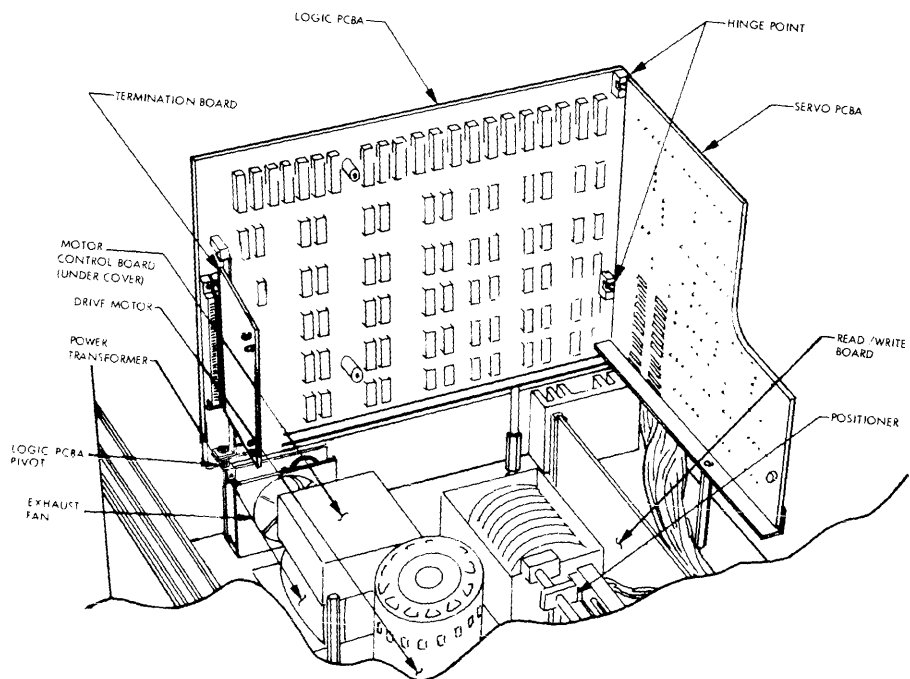

Figure 2-4. Component Identification
- (9) Swing the Servo PCBA into its extended position; engage the locking pin and the PCBA support bracket (see Figure 2-4).
- (10) Loosen and remove the horizontal tie-down screw and rubber grommet that anchors the Balance Weight on the carriage assembly to the magnet assembly. Store the screw and rubber grommet in the tapped hole provided on the base assembly, adjacent to the position transducer assembly.
- (1) With the protective dust cover removed and the Servo PCBA in the raised position as shown in Figure 2-4, inspect the PCBAs, connectors, and cables. Verify that shipping damage has not occurred. Check the connectors and plug-in relay for proper installation.
- (2) Verify that the positioner is in the fully retracted position.
- (3) Verify that the cartridge area is free of dirt, contaminants, and shipping material.
- (4) Verify that the ON/OFF switch is set to OFF.